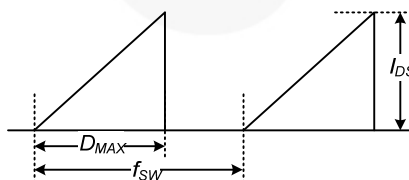

Figure 4. Repetitive Peak Switching Current
- Repetitive peak switching current when the inductive load is assumed: limited by maximum duty ( $D_{MAX}=0.73$ ) and junction temperature (see Figure 4).